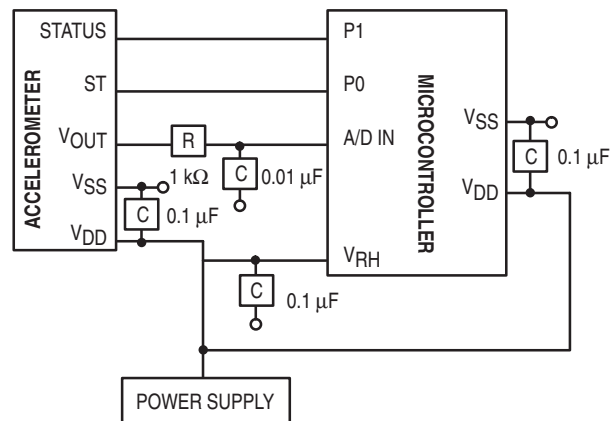

Figure 6. Recommend PCB Layout for Interfacing Accelerometer to Microcontroller
- Place a ground plane beneath the accelerometer to reduce noise, the ground plane should be attached to all of the open ended terminals shown in Figure 6.